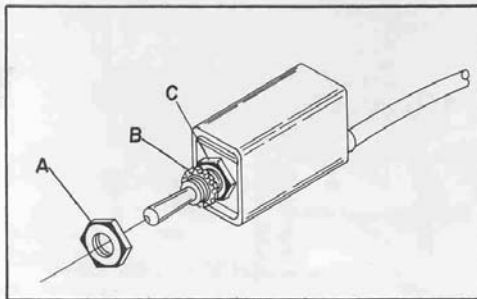

Fig. 5
1. Remove outer hex nut (A) Fig. 5, from switch stem. Leave shakeproof lockwasher (B) and inside hex nut (C) on switch stem. NOTE: The proper grounding of the switch to prevent shock hazard, depends on the use of the shakeproof lockwasher in the manner shown.